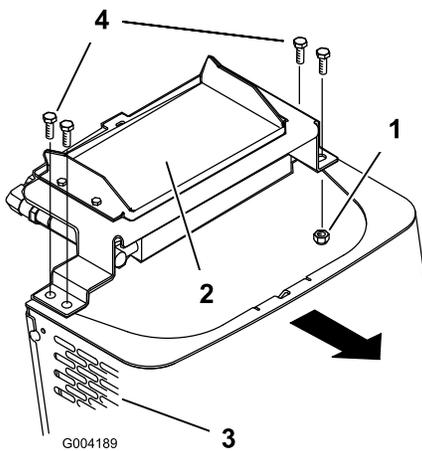

Figure 23
6. Remove the shoulder bolts and nuts securing the oil cooler to the top of the front screen (Figure 23).